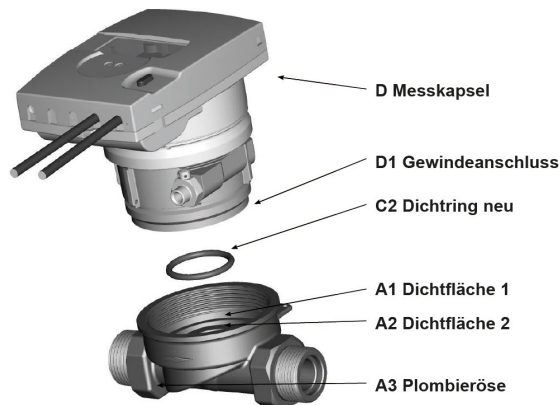

Fig. 5.2.2 Installation of F PolluCom® F/S C X measuring capsule
6. Remove the protective cap from the threaded connection (D1) of the PolluCom® F/S C coaxial meter (D) and insert the supplied new profile seal (C2) onto the sealing surfaces (A1 and A2) of the EAS. Do not use any additional sealants under any circumstances! (Fig. 5.2.2)